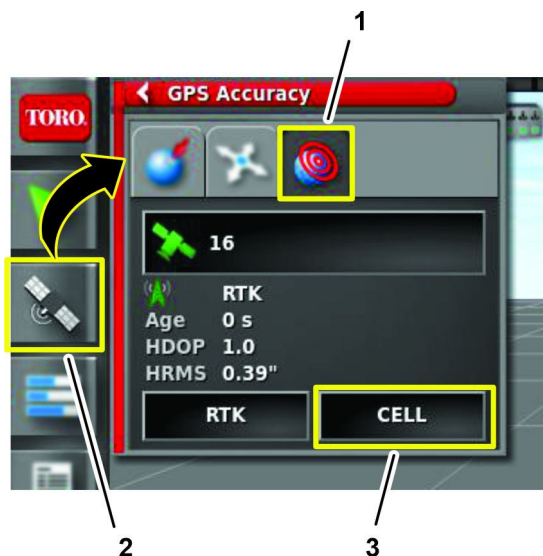

Figure 244
3. On the GeoLink control console, press the GPS INFORMATION icon (Figure 244).